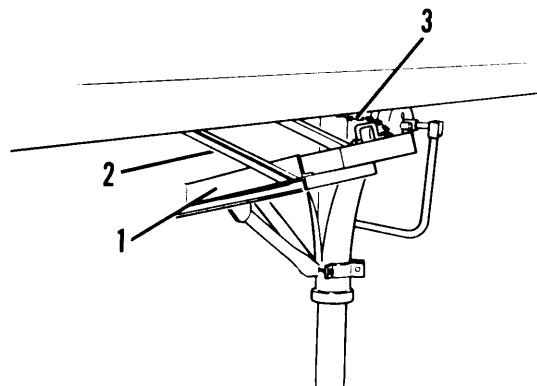

Figure 2-2. Float Pad (Ground Board Assembly)
a. Two float pads (1, fig. 2-2) are provided for placing under landing leg feet to keep them from sinking into soft ground.
b. Stored in brackets (2) welded to frame.
c. Float pad chain (3) is welded to the frame.